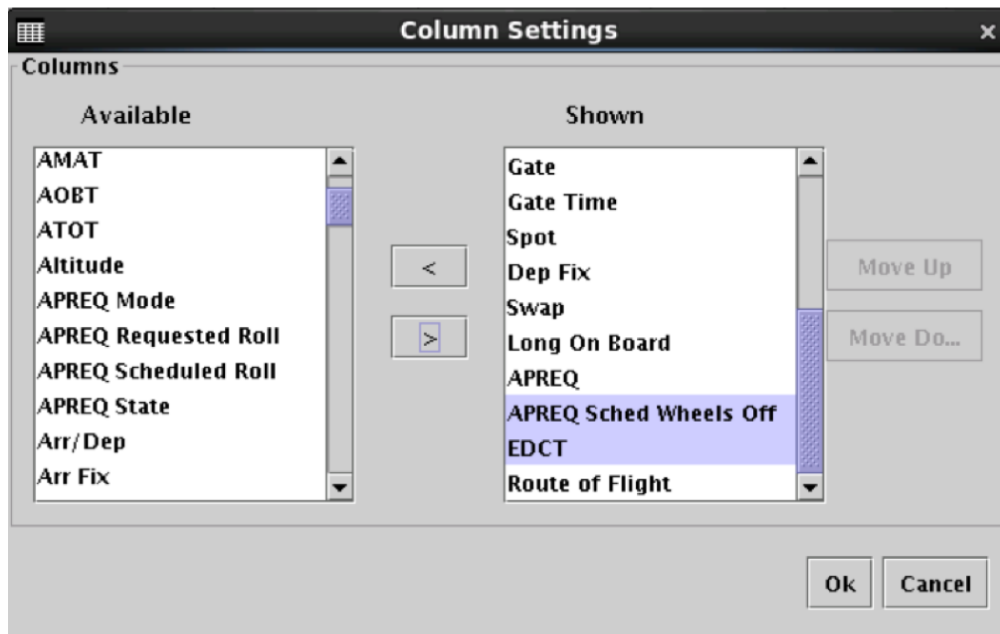

Figure 69. Add a column to the Flights Table – field added.
**Step 3:** Click on the right arrow “>” in the middle of the lists. The new field should now be inserted above the selected field in the “Shown” list (Figure 69).